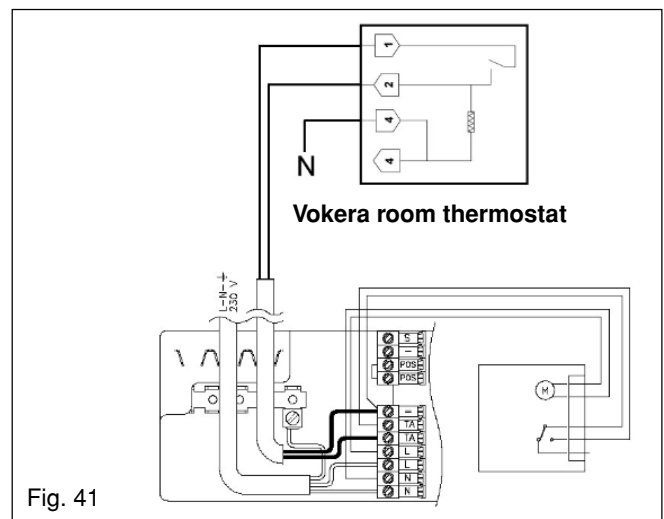

Fig. 41
**8.5 VOKERA ROOM THERMOSTAT (see fig. 41)**
Connect the Vokera room thermostat to the appliance as detailed in fig. 41.